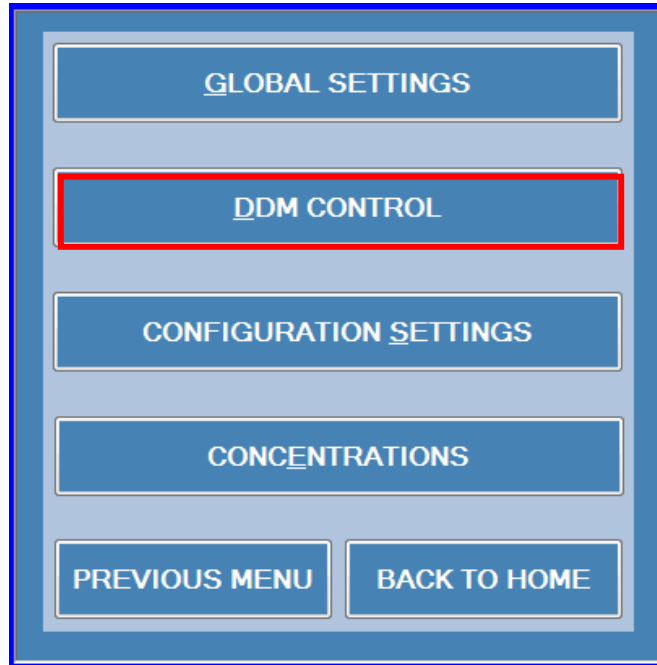

Figure 10.4 – Select DDM Control
9. Select **Control Panel** from the Instrument Configuration menu (see Figure 10.4).